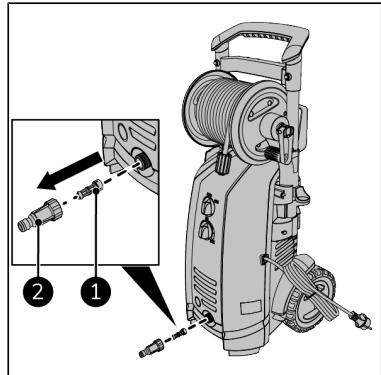

Figure 42.
5. Apply Vaseline to the O-ring of the garden hose coupling (Figure 42, pos. 2).
3. Unscrew the garden hose coupling (Figure 42, pos. 2).
4. Pull out the filter (Figure 42, pos. 1).